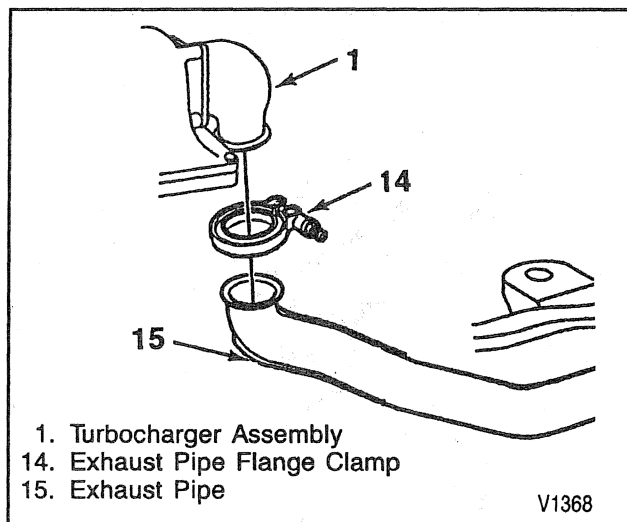

Figure 12—Exhaust Connection
5. Exhaust pipe to turbocharger with clamp (figure 12).